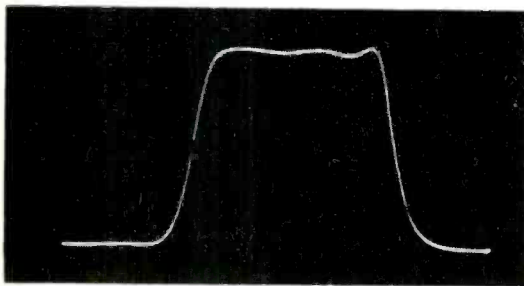

Fig. 5. I.F. frequency response with half voltage points at 19 and 25 mc.
I.F. and video stages are identical in the v.h.f. and u.h.f. units. The overall i.f. frequency response characteristic shown in Figs. 5 and 6 is obtained by the staggered-tuned i.f. circuits, which include a trap for shaping the slope of the curve near the carrier. Capacity loading of the i.f. circuits provides good stability and reduces detuning effects due to tube replacement. Refer to Fig. 10 for the discussion which follows.